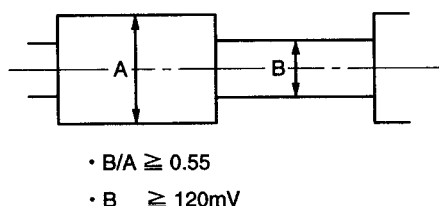

Fig. 1-7-11 Envelope output and output difference
2. In recording/playback the tape with a E-180, the video envelope should meet the specification as shown in Fig. 1-7-11.